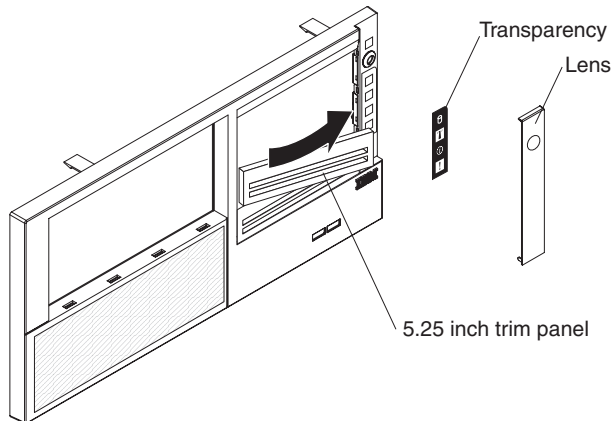

Figure 16. Installing the transparency and lens
- 1) Position the transparency as shown in figure 16; then, fit the transparency over the square holes in the bezel, using the recess as a guide.